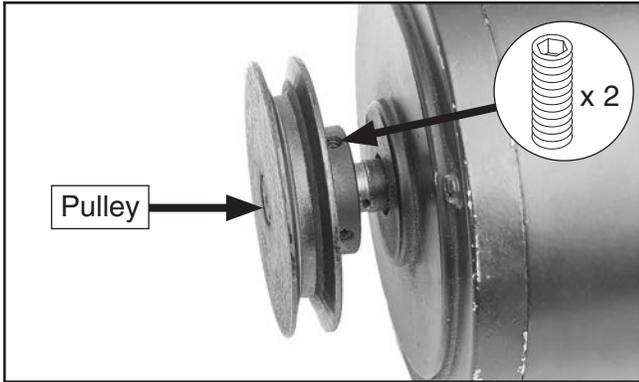

Figure 13. Motor pulley set screw locations.
- Loosen set screws on cutterhead or motor pulley as needed to align pulleys, then tighten set screws (see **Figure 13**).